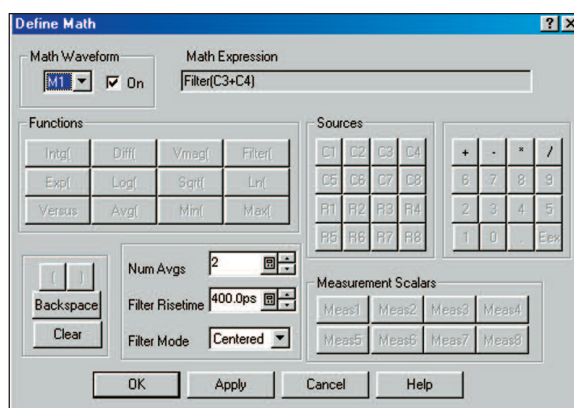

Figure 15. Define Math Menu
- In the math menu (under Edit in the Windows[®] toolbar or the math icon in the oscilloscope toolbar), select Filter and enter the rise time desired for your test in the Filter Risettime menu (Figure 15). Typically 400 ps is used for USB devices.